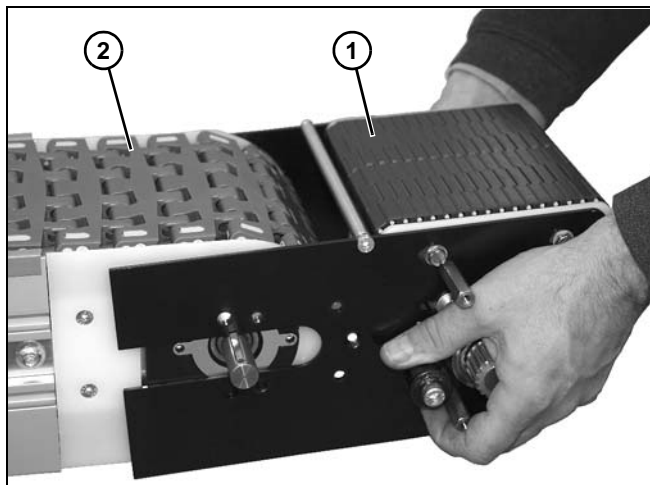

Figure 117
9. Remove power transfer tail (Figure 117, item 1) from frame (Figure 117, item 2).